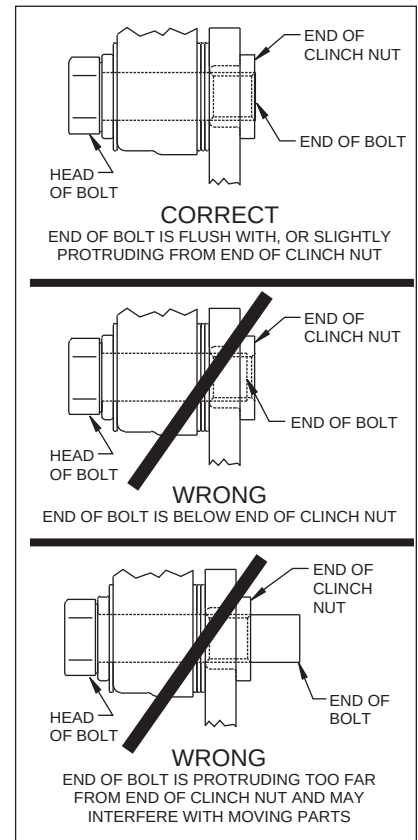

Figure 4.
- Pack the small outer bearing cone (16) with high temperature disc brake bearing grease. Lightly coat the spindle bearing surfaces with bearing grease. Slide the hub/rotor assembly (9 and 13) with outer bearing cone (16) onto the spindle. Secure using existing spindle washer, existing adjusting nut and nut locking device (adjust bearings per original equipment manufacturer specifications).
- Install the dust cap (18) onto the hub (9). Friction created by the o-ring (17) on the dust cap (18) keeps it from unscrewing. The O.D. of the existing spindle washer may be larger than the I.D. of the dust cap (18) not allowing it to seat against the hub face. Some grinding of the washer O.D. may be necessary to clear the I.D. of the dust cap.
- NOTE:** Please reference the caution statement at the beginning of the assembly instructions. Mount the caliper (19) onto the caliper mounting bracket (1) using two bolts (21) and two washers (20). View the rotor (13) through the top of the caliper (19). The rotor (13) should be aligned in the center of the caliper (19). If not, loosen the two bolts (21) and adjust the caliper (19) by using 0.032 inch thick shim washers (22). The shim washers (22) should be placed between the caliper (19) and the caliper mounting bracket (1). Finger tighten and recheck alignment. Add as many shim washers (22) as necessary to achieve the correct alignment.
- NOTE:** The end of the bolt must be flush with or slightly protruding from the head of the clinch nut. See Figure 4. Place spare shims (22) between washer and caliper mounting ear to achieve the proper mounting fastener configuration. Always use the same amount of shims on both the top and bottom caliper mounting bolts (21). Loosen the two bolts (21) and apply red *Loctite*® 271 to bolt threads (21) and torque to 40 ft-lb. Caliper mount bolts may be safety wired for additional security.
- Install the disc brake pads (23) and secure using cotter pin (24). Repeat this procedure for the other wheel.